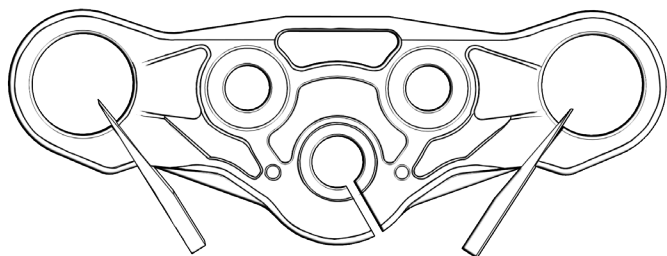

Fig. 8
1. Before installing forks into either KRAUS tree, use spreader/shims to open the bore of each tree. **(See Fig. 8)**